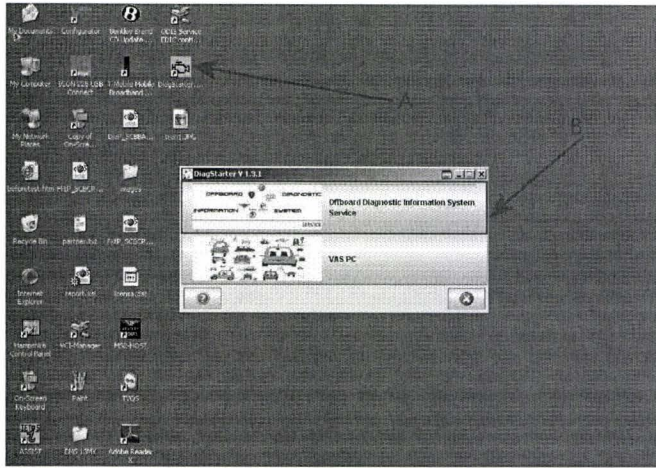

Figure 3
2. From the Desktop launch the Offboard Diagnostic Information System Service using the Diagstarter icon (Figure 3 Point A)
-Select **Offboard Diagnostic Information System Service** (Figure 3 Point B) and follow all on screen prompts